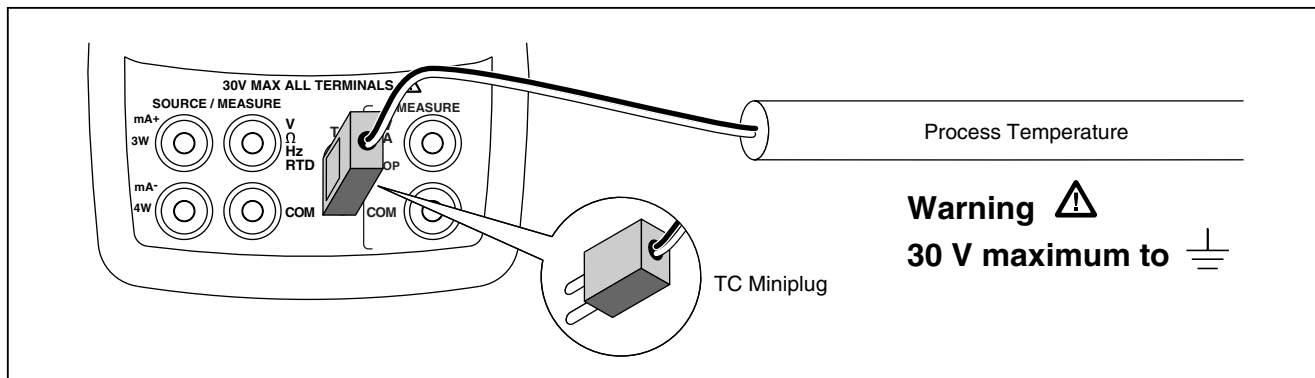

Figure 10. Measuring Temperature with a Thermocouple
1. Attach the thermocouple leads to the appropriate TC miniplug, then to the TC input/output as shown in Figure 10. *One pin is wider than the other. Do not try to force a miniplug in the wrong polarization.*